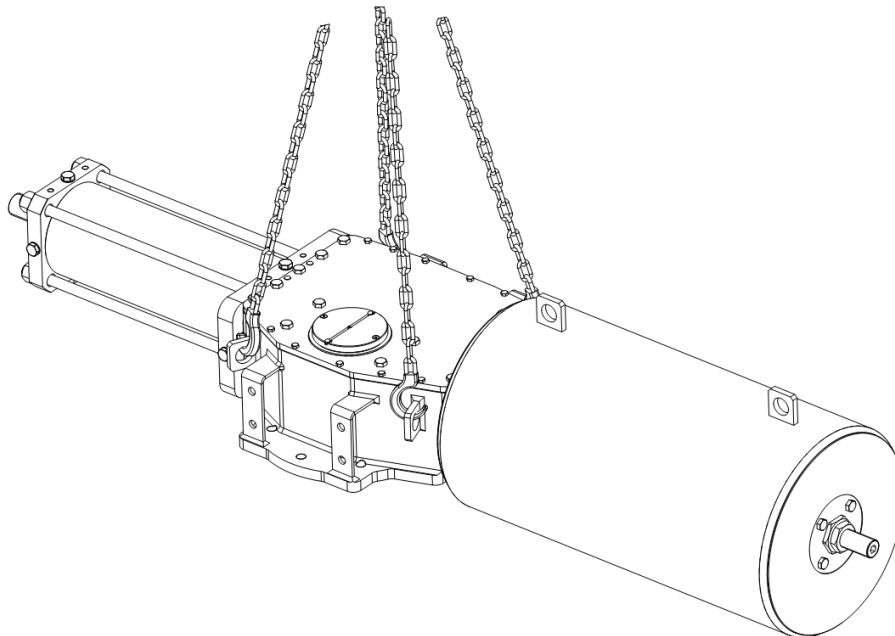

Fig. 2 – Lifting points for RTQHS actuator series
<p>Warning: Lift the actuator as shown in Fig.2. The fastening points are appropriate for the lifting of the actuator alone and not for the valve + actuator assembly.</p>
- Conditions in which the machinery meets the requirement of stability during use, transportation, assembly, dismantling when out of service, testing or foreseeable breakdowns, are shown in Fig.2.